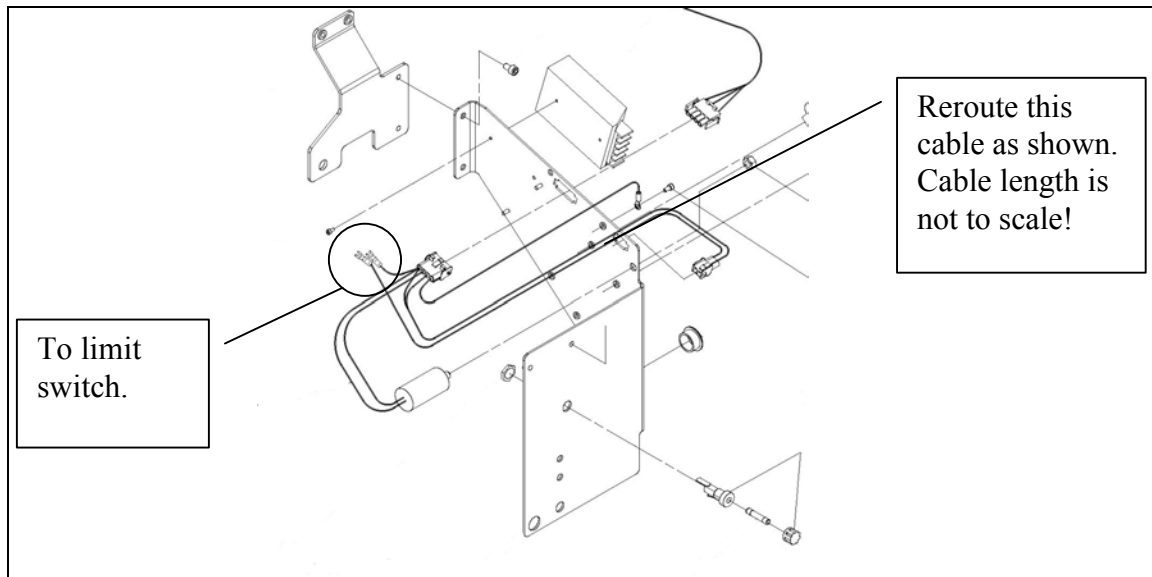

Figure 9. New Fan Harness Routing
17. Per Figure 9, route new fan harness.